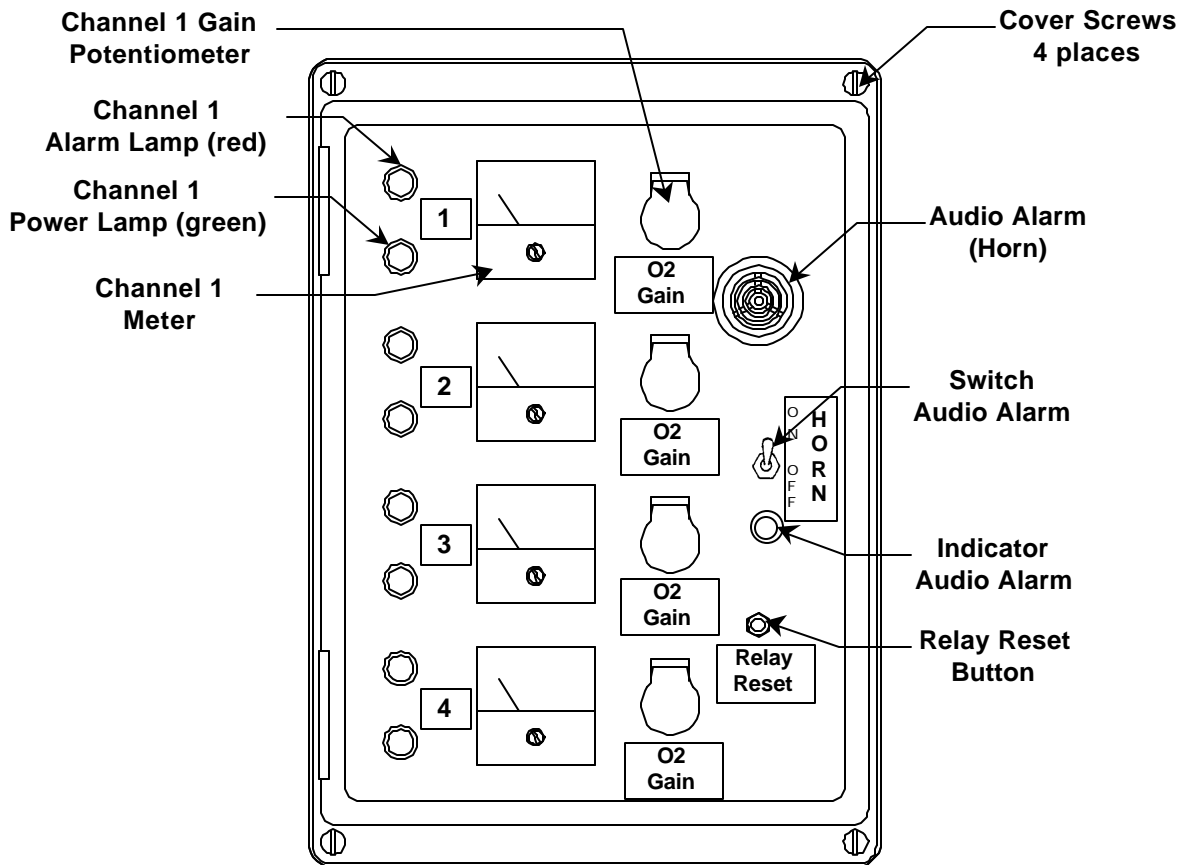
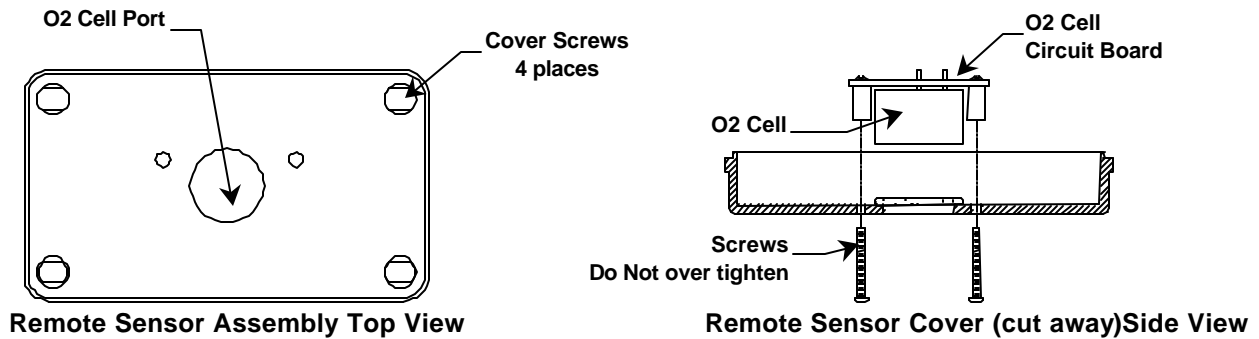

Figure 1: ISA-40 Control Unit Exterior
Figure 5: Remote Sensor Oxygen Cell Installation (Optional)
See figure 1 for location of features
The input of the transformer must be changed in order to accommodate 220 VAC power. This is accomplished by changing the wiring between four standoffs located under a protective cover next to the transformer, shown in Figure 1. The wiring configurations and the power supply schematics are shown in Figure 5.
1. Remove 4 cover screws to open the control unit and remove screws to remove cell circuit board. See Figure 1 & 3.
1. Open the control unit by removing the four screws on the display face corners. See Figure 1
5. Remove screws in sensor assembly to remove oxygen cell mounting and cell circuit board. See Figure 5.